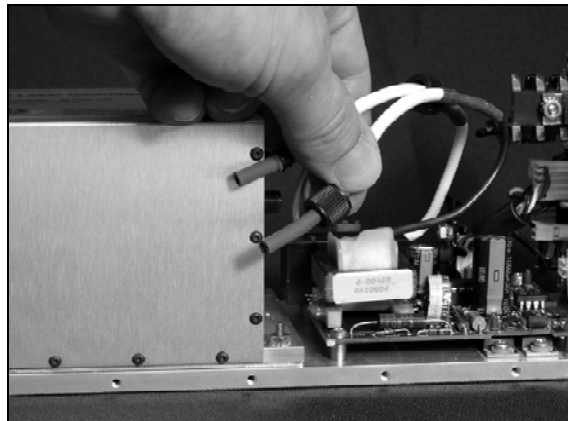

Figure 18. Disconnect high voltage connectors to the laser cartridge.
3. Disconnect the trigger and high voltage connectors on the laser cartridge, as shown in Figure 18.